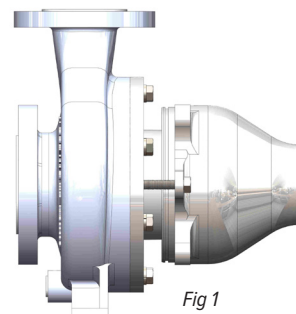

Fig 1
- ⚠ Magnetic Force Hazard.** This pump should only be disassembled and assembled using the recommended procedures. The magnetic attraction is powerful enough to rapidly pull the motor end and the wet end together. **ALWAYS** use the jackscrews (item 14) to assemble/disassemble the pump. Do not place fingers between the mating surfaces of the motor and wet ends to avoid injuries. Keep the drive magnet and impeller assembly away from metal chips or particles.
- Using a 24 mm socket, unbolt the wet end (items 1-7) from the motor adapter by removing the (4) M16 hex head cap screws (item 15). Make sure the (2) jackscrews (item 14) are fully extended. Using a 24 mm socket turn the jackscrews clockwise until they are fully extended. See figure 1.